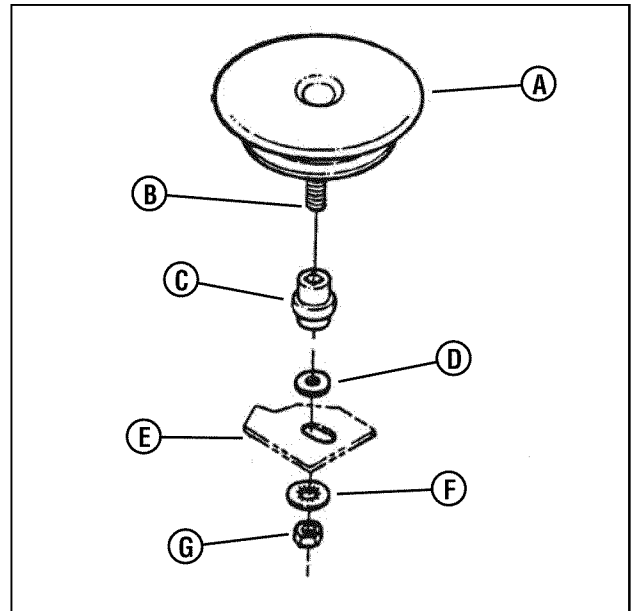

Figure 35: Removing the drive disc
5. Hold the slotted end of the drive disc bolt (**B**, **Figure 35**) with a screwdriver and remove the nut (**G**) and internal tooth lock washer (**F**).